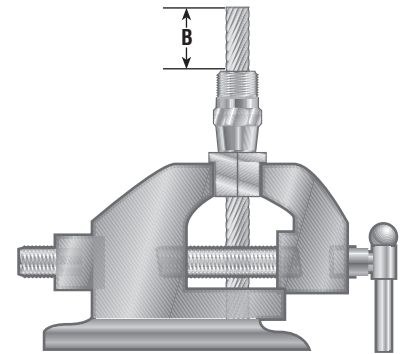

Figure 1
STEP 1: Slide the sleeve over the rope, secure the rope in the assembly blocks and tighten the vise. (Figure 1) If the Esmet assembly kit is not available, assembly blocks with a hole 1/32" less than the diameter of the rope can be made. If the rope has seizing, it may be easier to install the sleeve after the seizing has been removed. Before tightening the vise, be sure enough rope extends beyond the sleeve. (see dimensions in Figure 1).